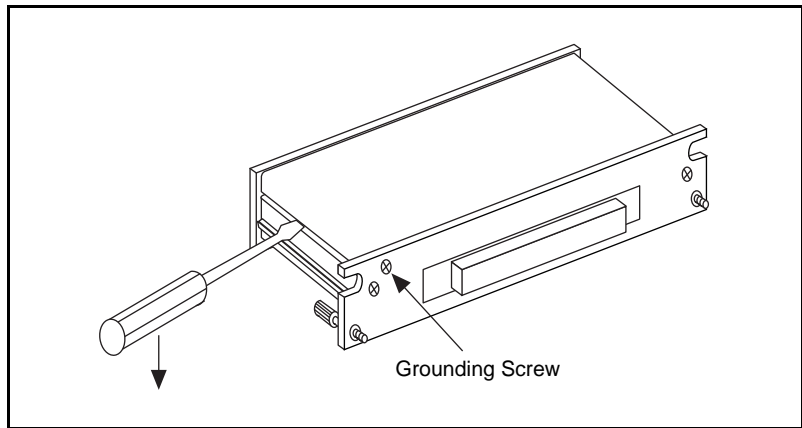

Figure 1. Removing the SCXI-1303 Cover
To connect the signal wires to the SCXI-1303 terminal block, refer to Figures 1 and 2 as necessary while you perform the following steps:
2. Snap out the top cover by placing a flathead screwdriver in the groove at the bottom of the terminal block and pushing down on the screwdriver, as shown in Figure 1.